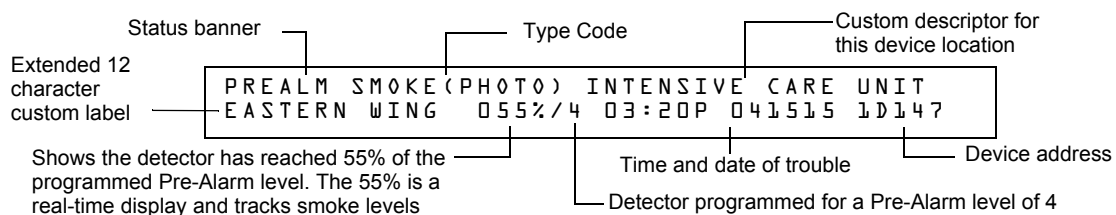

Figure 3.13 Sample of an Alert Pre-Alarm Message
- Displays a PREALARM status banner, the Type Code of the detector, and the Pre-Alarm level (Alert or Action) on the LCD display, along with information specific to the device as shown in Figure 3.13.